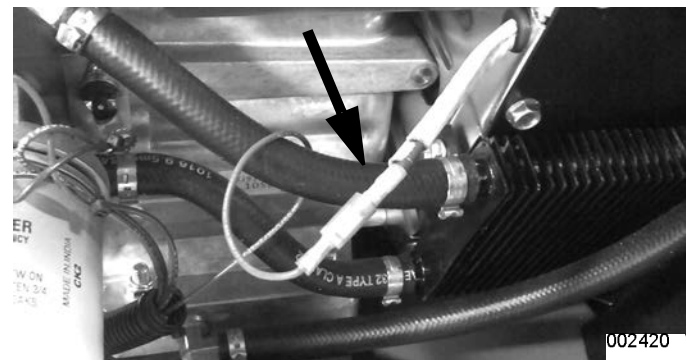

Figure 4-79. Wire 18 Connection
2. See **Figure 4-79**. Back probe the harness connector.